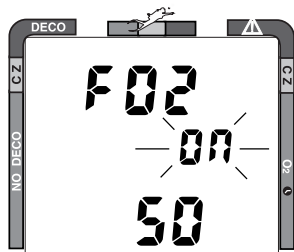

Fig. 25 - Set FO2 Default
- FO2 50 appears with On or Off flashing (Fig. 25)